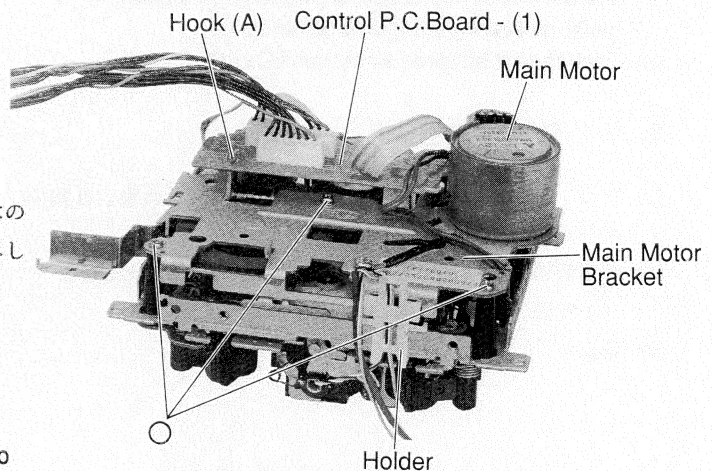

Figure 15
- (1) Remove two screws marked "△" after removing the holder as shown in Figures 15 and 18.